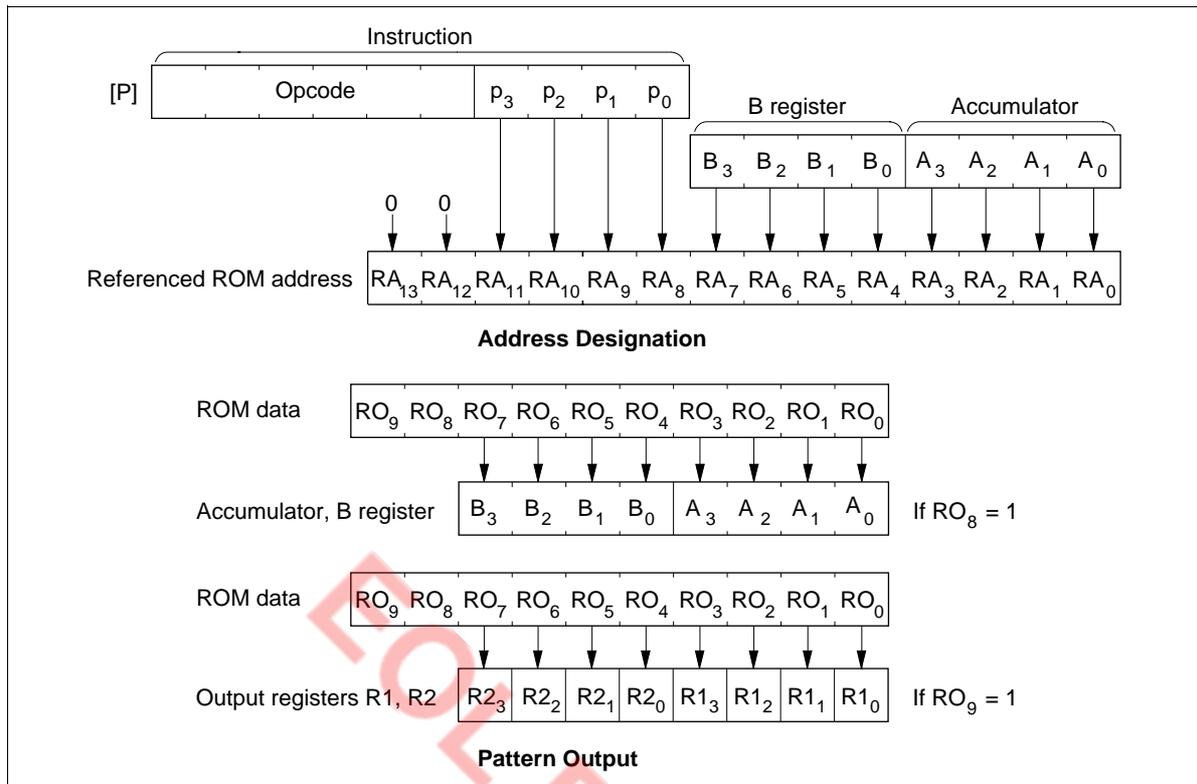

Figure 75 P Instruction
**P Instruction:** ROM data addressed in table data addressing mode can be referenced with the P instruction as shown in figure 75. If bit 8 of the ROM data is 1, eight bits of ROM data are written to the accumulator and the B register. If bit 9 is 1, eight bits of ROM data are written to the R1 and R2 port output registers. If both bits 8 and 9 are 1, ROM data is written to the accumulator and the B register, and also to the R1 and R2 port output registers at the same time.